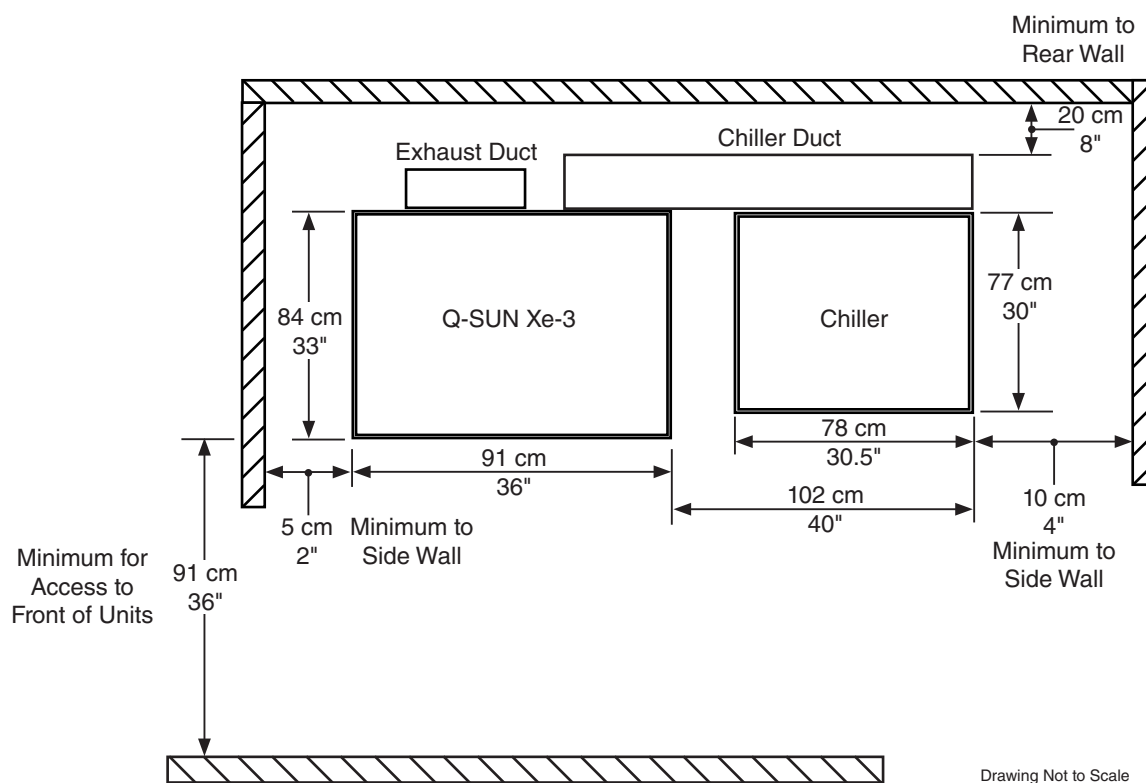

Figure 5.7b: Q-SUN Xe-3 placement with chiller.
- An Xe-3 with Chiller should be positioned as shown in Figure 5.7b below.